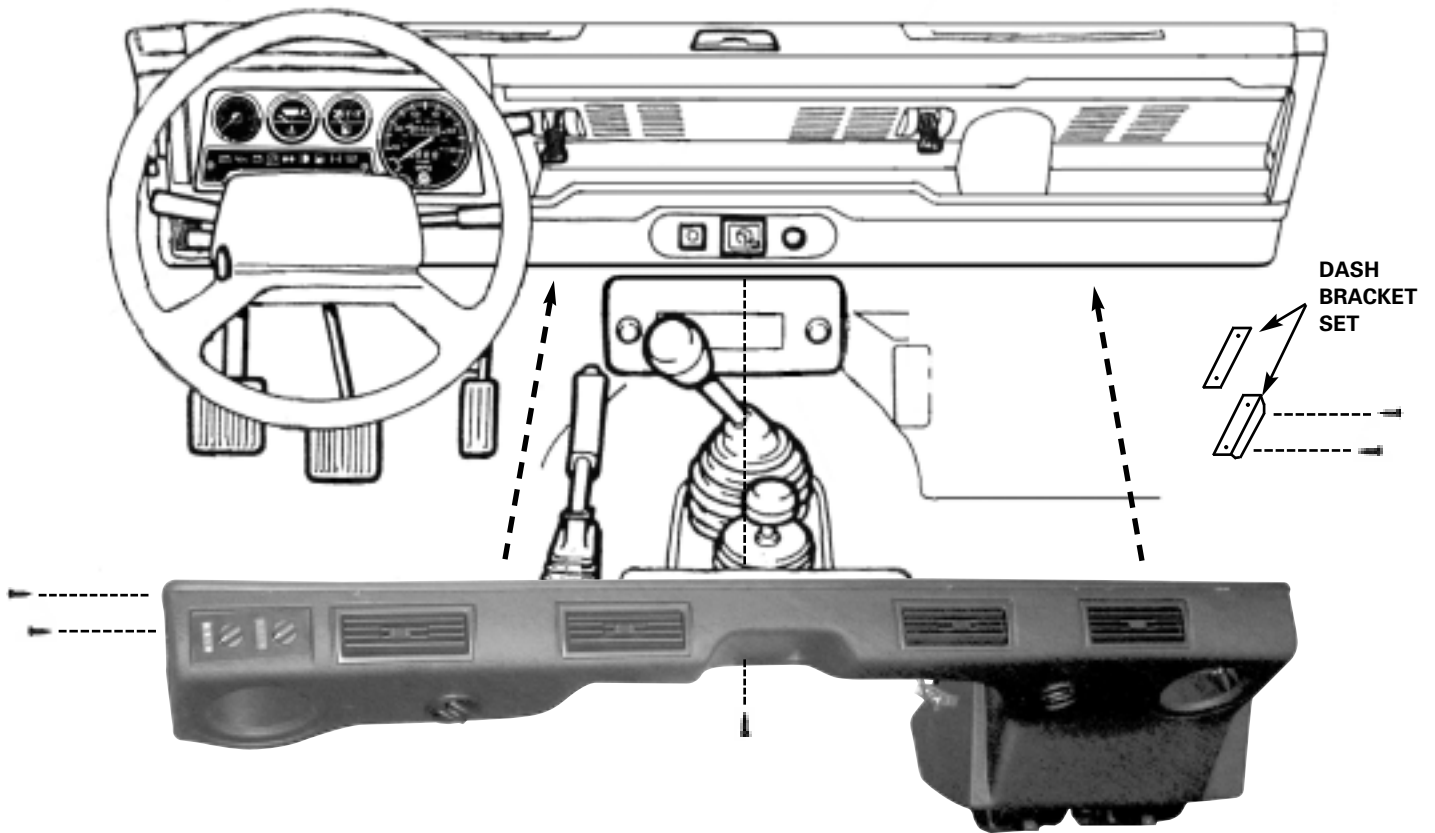

FIGURE 4
7. Vehicles fitted with lower dash speakers, drill out the two outer speaker fixing holes to 7mm diameter. Fit the two 90° dash brackets and weld nut brackets to the drilled out speaker holes as shown. (See Figure 4). Vehicles without lower dash speakers; fit the 90° dash brackets using 1/4" x 1" self-tapping screws supplied in the kit. This is best done by temporarily attaching the brackets to the Air Conditioning fascia assembly lifting into place and marking bottom of dash for location. On dash bottoms that are not solid (but have a concealed speaker hole behind vinyl dash covering) it is necessary to cut out the vinyl and install the weld nut bracket as supplied.
8. Lift the Air Conditioning fascia assembly into position on the vehicle dash paying particular attention to correctly aligning the Evaporator pipe with the 2" hole in RH footwell. (See Figure 4)